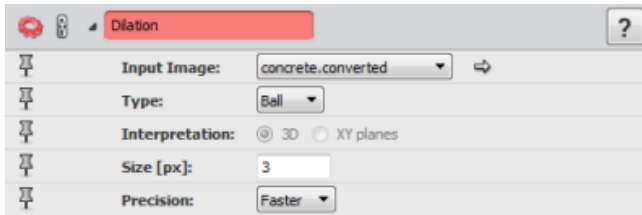

Figure 10.18: Default parameter settings of the *Ball Dilation* module
6. To dilate the centerlines back to fit the original data, attach a *Ball Dilation* module to *concrete.converted* and set the parameters as shown in Figure 10.18: